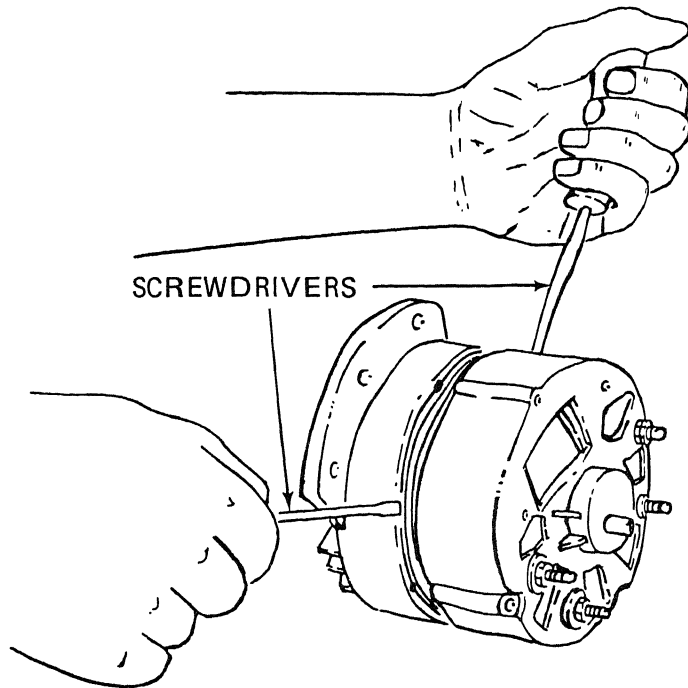

Figure 5-28.8 Front and Rear Housing Separation
- (5) Carefully insert two small bladed screwdrivers in the stator slots between the stator and front housing (see Figure 5-28.8).